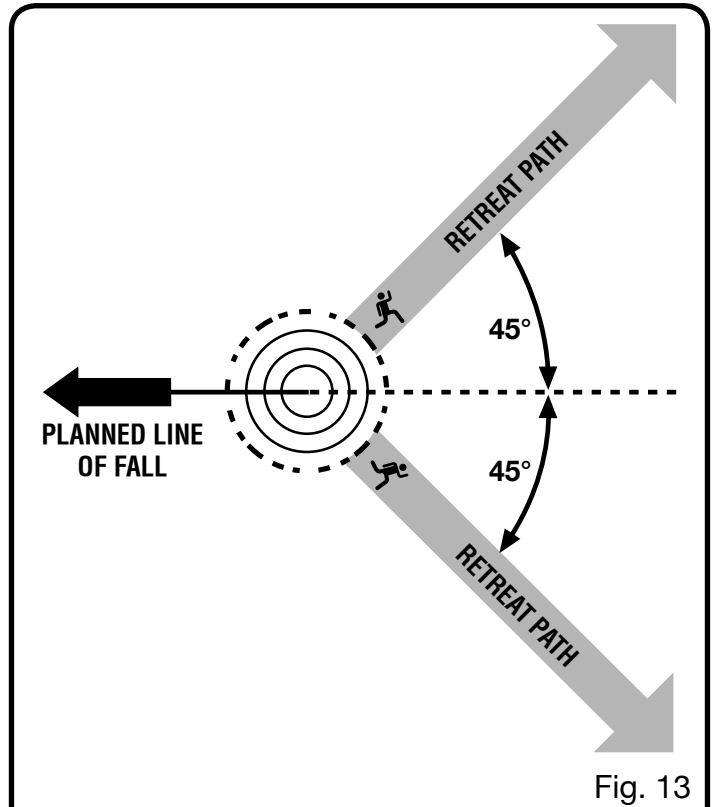

Fig. 13
See Figure 13.
See Figures 13 - 16.
- Before any cuts are started, pick your escape route (or routes in case the intended route is blocked); clear the immediate area around the tree and make sure there are no obstructions in your planned path of retreat. Clear paths of safe retreat should extend back and diagonally (45°) to the rear of the planned line of fall. When the tree begins to fall, you should retreat away from the direction of fall along a retreat path and at least 20 feet away from the trunk in case it kicks back over the stump. *See Figure 13.*